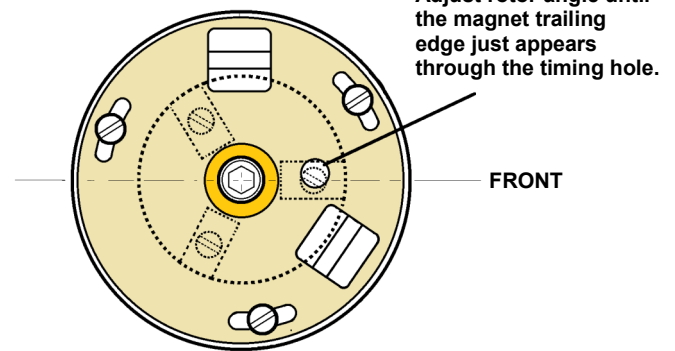

Fig.4.
- 8) If the machine has a very different layout of electrical components the system can still be fitted provided the circuit diagram (Fig.4.) is followed.